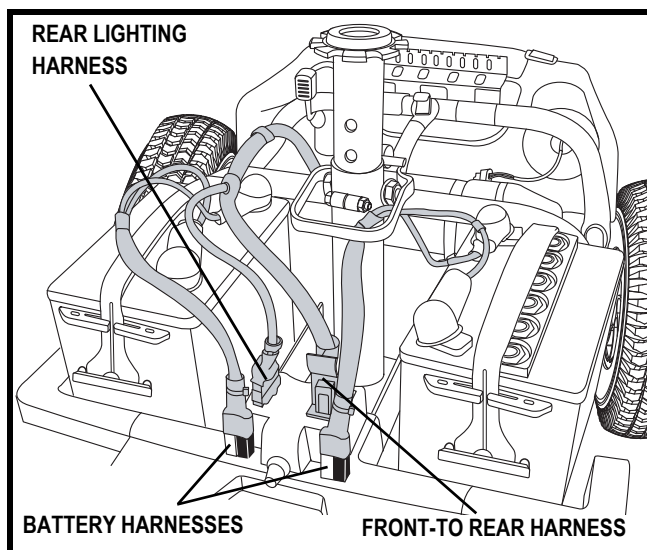

Figure 23. Harness Connections
6. Unplug both battery harnesses. Pull each harness straight up. See **figure 23**.
6. Connect the front-to-rear harness, rear lighting harness, and both battery harnesses. See figure 23.